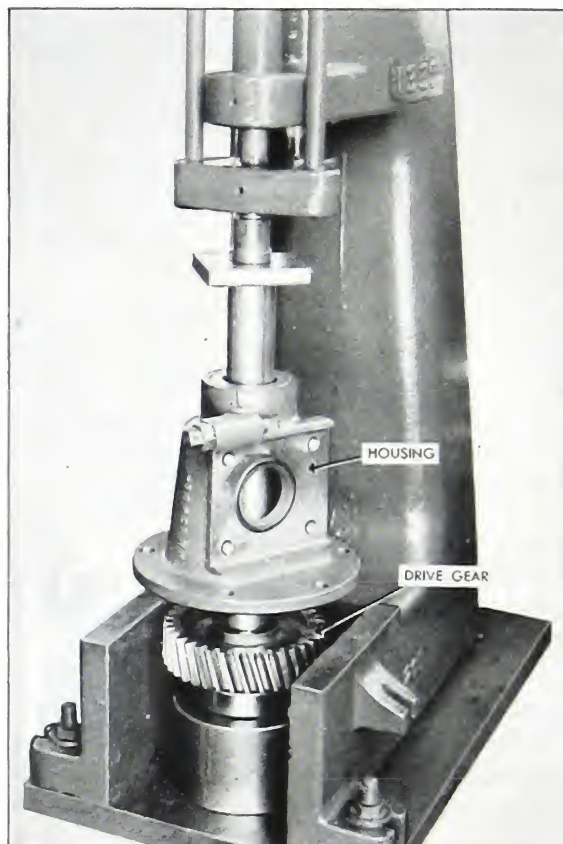

Fig. 9-3. Assembling fuel pump and compressor drive
9. Press the housing assembly on the shaft and gear assembly to the stop. Fig. 9-3.